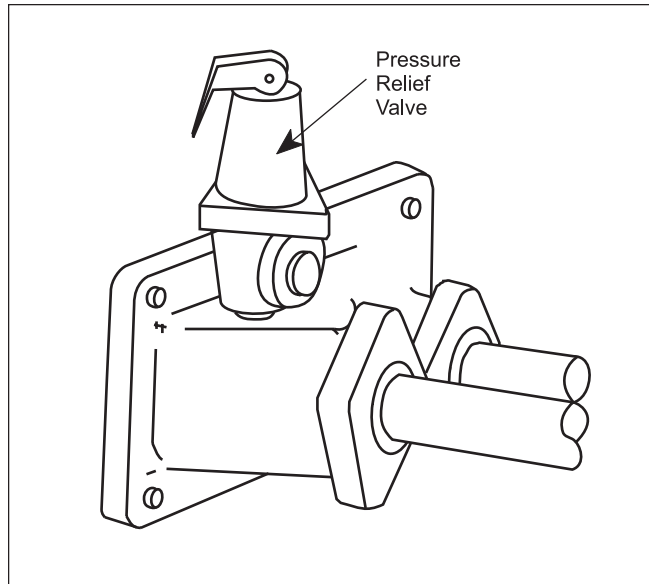

Figure 9. Pressure Relief Valve Location.
2. The pressure relief valve installed in the tapped opening provided in the outlet header (see Figure 9), must be piped, but not fastened, to a drain or floor sink. The drain pipe must be the same size as the valve outlet and must pitch downward from the valve.